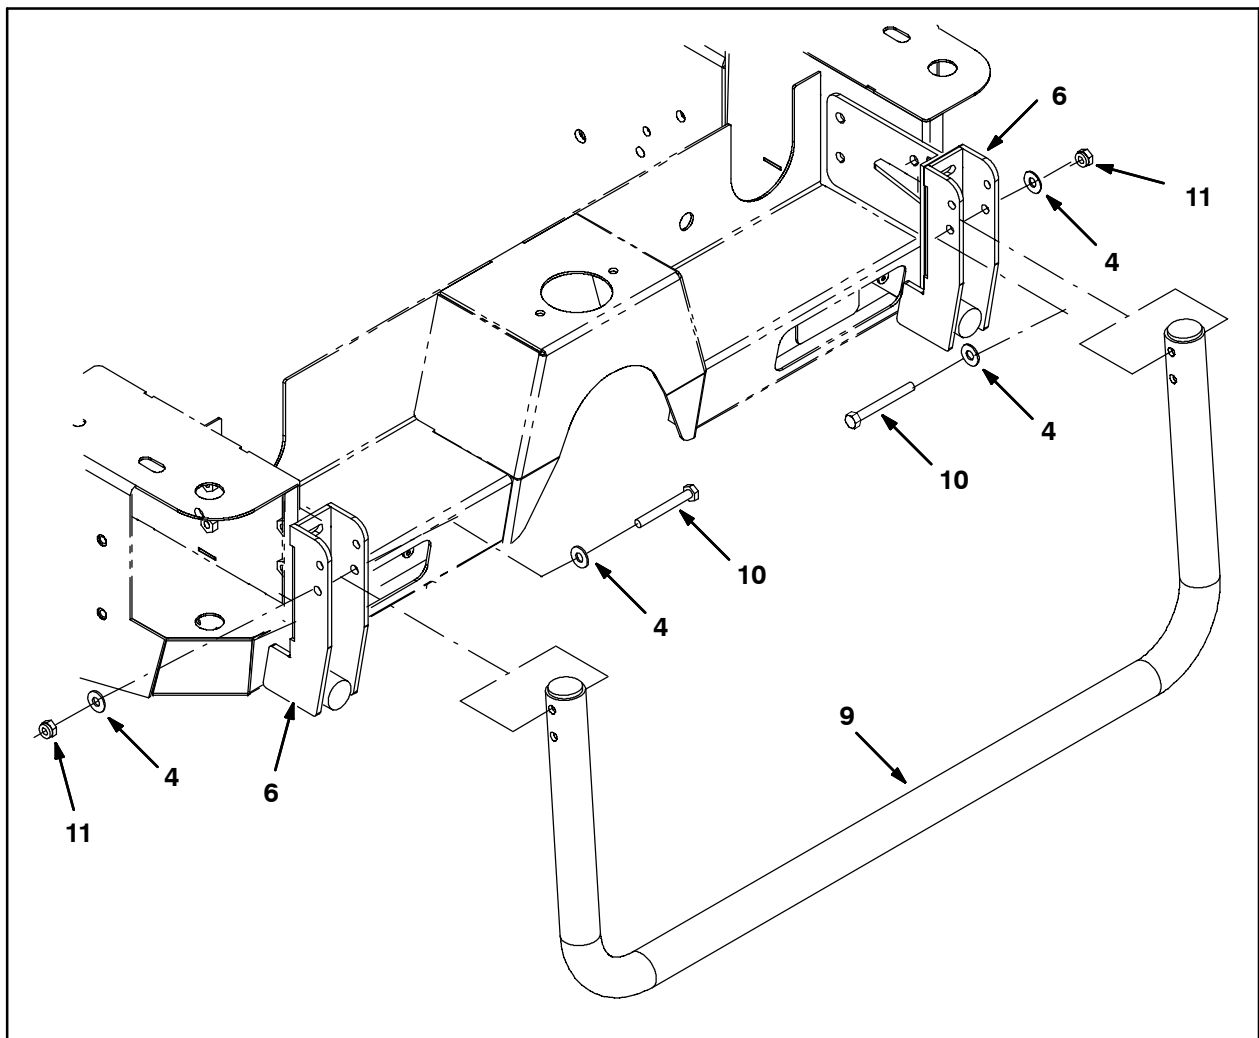

FIG. 8
- Use two hex screws (10), four flat washers (4), and two hex nuts (11) to mount the rear squeegee guard (9) onto the squeegee guard brackets (9). Refer to Fig. 8.